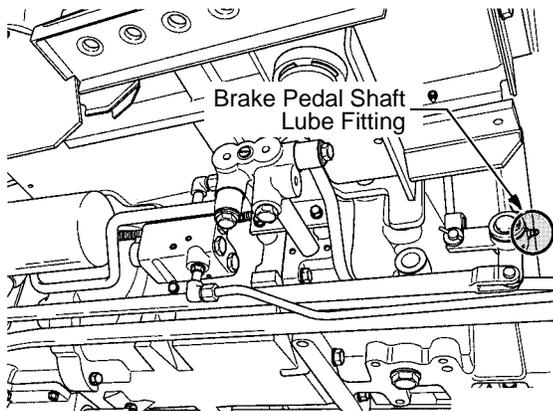

Figure 72
- Brake pedal shaft (both sides). See Figure 72.